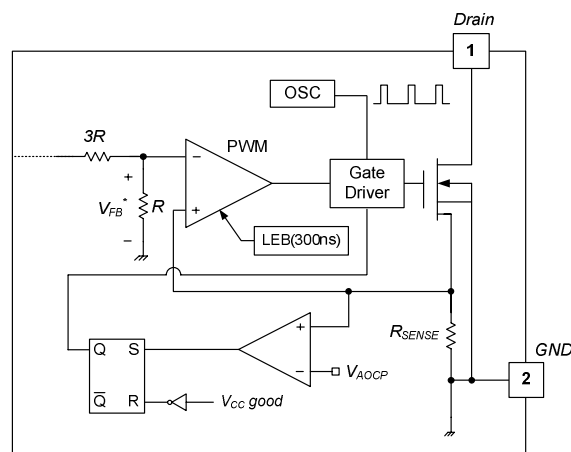

Figure 21. Abnormal Over-Current Protection
**4.2 Abnormal Over-Current Protection (AOCP):** When the secondary rectifier diodes or the transformer pins are shorted, a steep current with extremely high di/dt can flow through the SenseFET during the minimum turn-on time. Even though the FSGM0565RB has overload protection, it is not enough to protect the FSGM0565RB in that abnormal case; since severe current stress is imposed on the SenseFET until OLP is triggered. The FSGM0565RB internal AOCP circuit is shown in Figure 21. When the gate turn-on signal is applied to the power SenseFET, the AOCP block is enabled and monitors the current through the sensing resistor. The voltage across the resistor is compared with a preset AOCP level. If the sensing resistor voltage is greater than the AOCP level, the set signal is applied to the S-R latch, resulting in the shutdown of the SMPS.